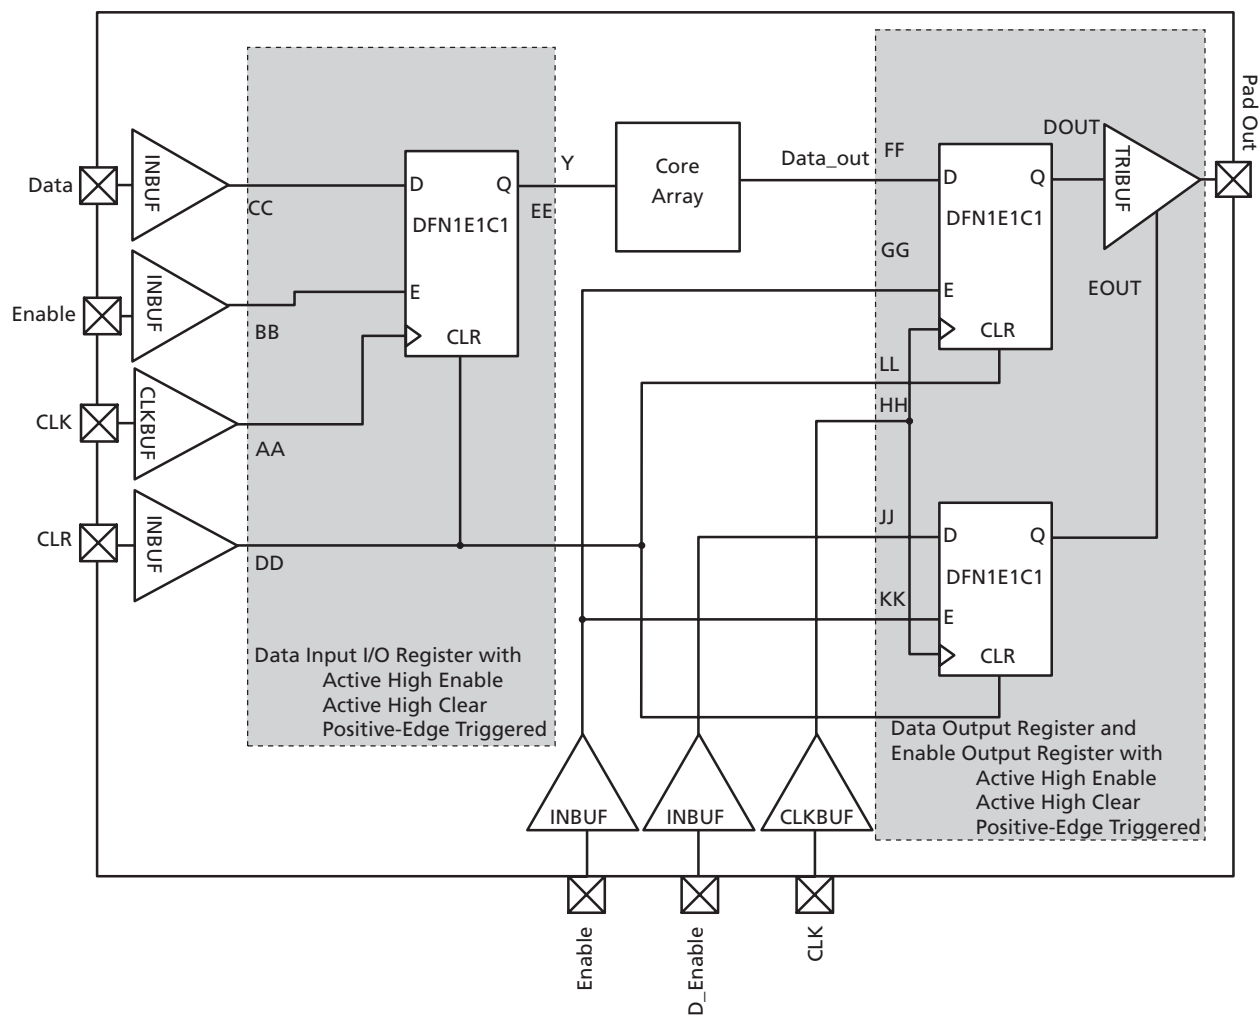

Figure 2-11 • Timing Model of the Registered I/O Buffers with Synchronous Enable and Asynchronous Clear
* See Figure 2-11 on page 2-34 for more information.